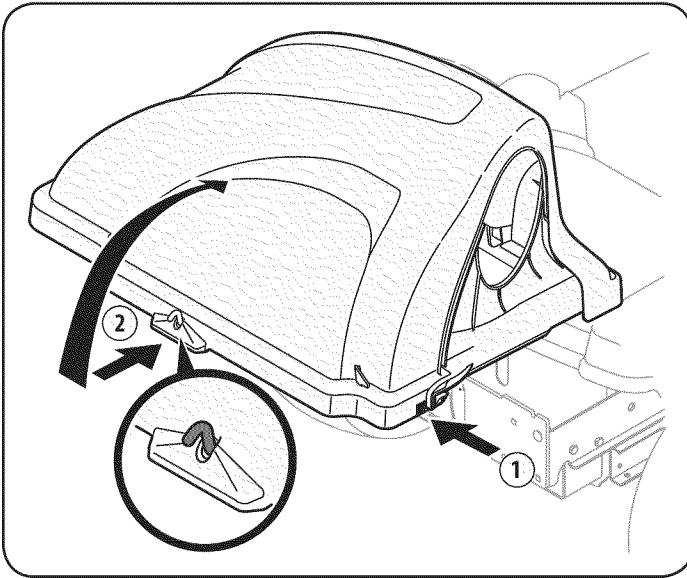

Figure 27
2. Open grass catcher cover by pushing in on the rear, right-side tab with your right-hand, as seen in 1 of Figure 27, and lifting with your left-hand in the rear center, 2.